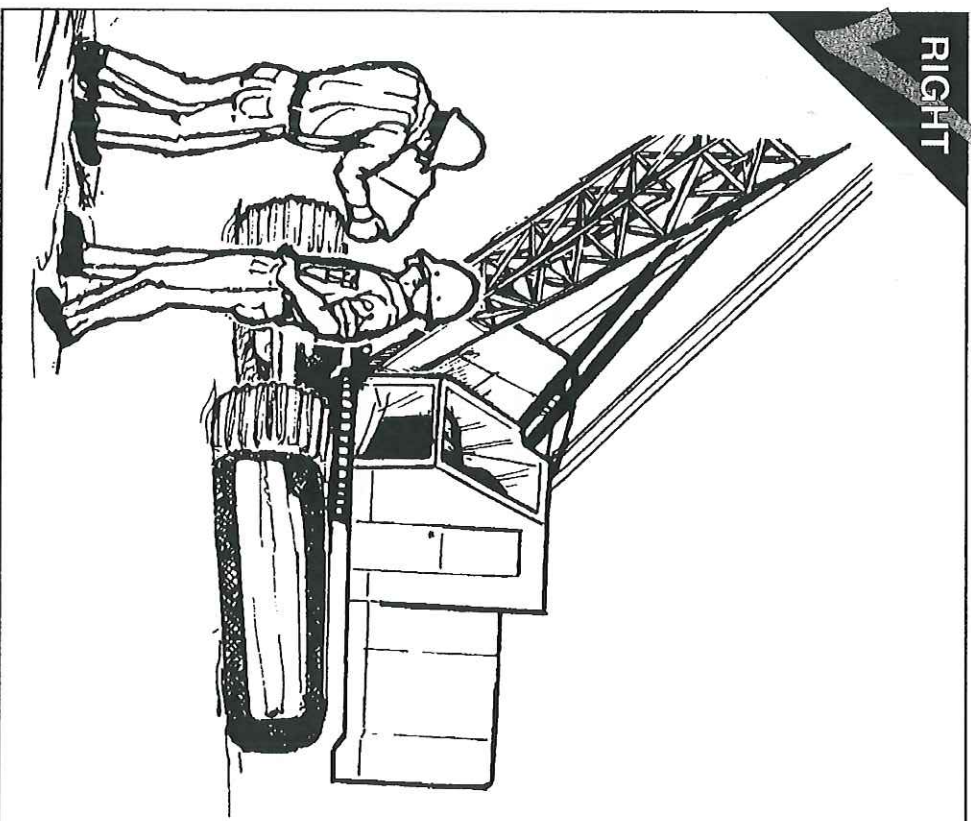

FIG. 1
- **Trained** — have read and understood the operator's instructional manual, the load rating chart, hand signals chart, and  safety decals and be skilled and knowledgeable in all operational and maintenance aspects of the machine. (FIG. 1)